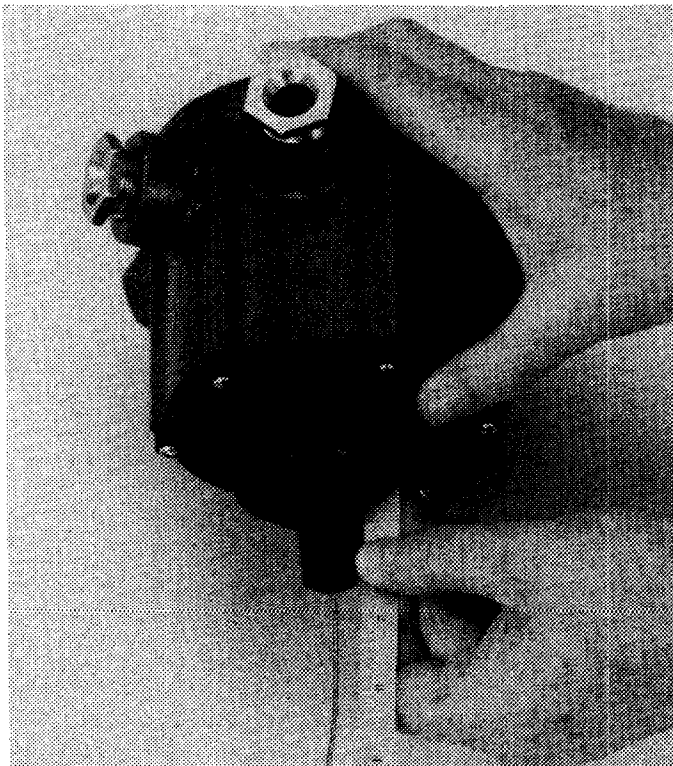

FIG. 9
7. Replace follower assembly and set spring adjusting bushing. Inner face of bushing flange should be about $\frac{1}{4}$ inch from face of housing Fig 9.
- e. If switch comes on when more than $\frac{1}{2}$ of upper weight is submerged, loosen set screw or spring bushing and push bushing in about $\frac{1}{32}$ to $\frac{3}{64}$ and retighten set screw. Turn bushing so that set screw point will not come back into same groove. If switch turns on when less than $\frac{1}{2}$ of upper weight is out of water, loosen set screw and pull bushing out about $\frac{1}{32}$ to $\frac{3}{64}$ inch. Use scale to check before and after measurements as shown in Fig 9. Turn bushing so that set screw point does not come back in same groove. Now tighten screw.